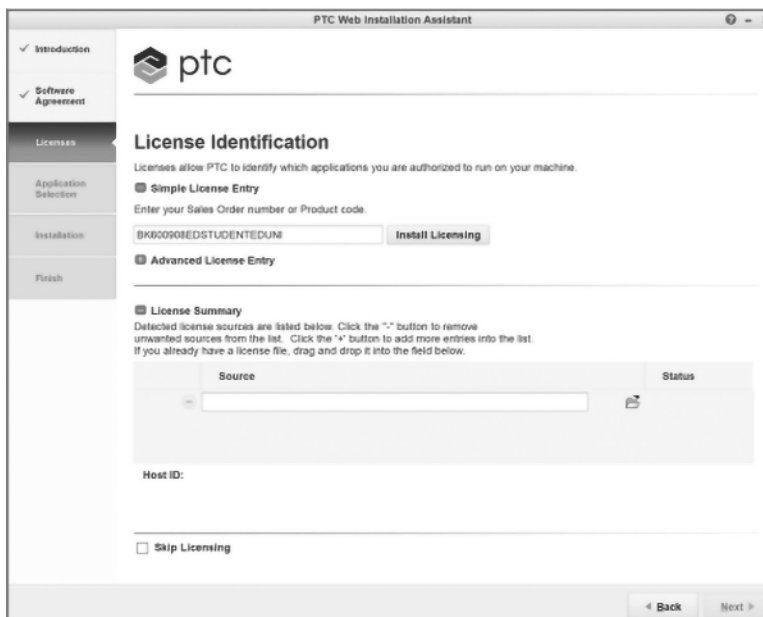

FIGURE 1.4 Creo Installation Assistant
- On the License Identification window (Figure 1.4), enter the serial number on your PDF document (Quick Installation Guide) you opened/saved earlier (the serial number will look like BK600908EDSTUDENTEDUNI)